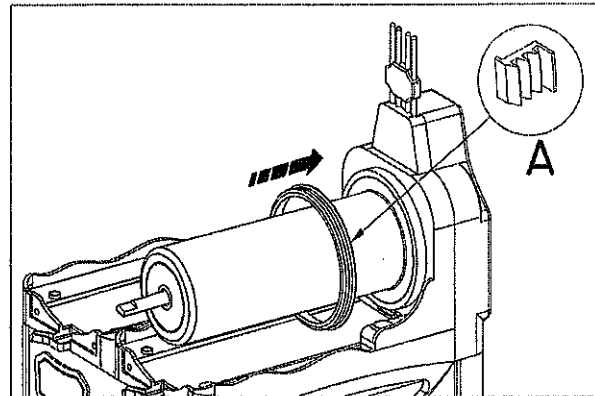

Fig. 18
Place the bowl basket at the bottom of the cylinder evaporator. Lubricating the upper part. (A). (see Fig. 18)